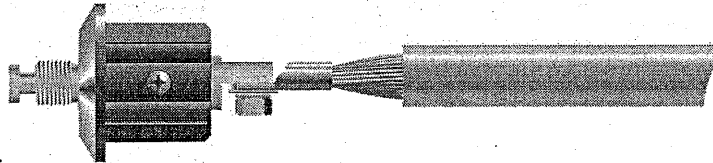

Figure 26.
6. Connect the crimp lug to the Stormaster Terminal Base Assembly using the bolt and washers as supplied with the assembly. Ensure the connection is aligned correctly and tightly secured using a 14mm spanner, socket or shifting spanner. (Figure 26)